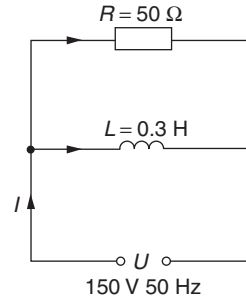

Fig. 59
2. Determine the resultant current I and its phase relationship with the supply voltage U in Figure 59. What is the power factor of the circuit?